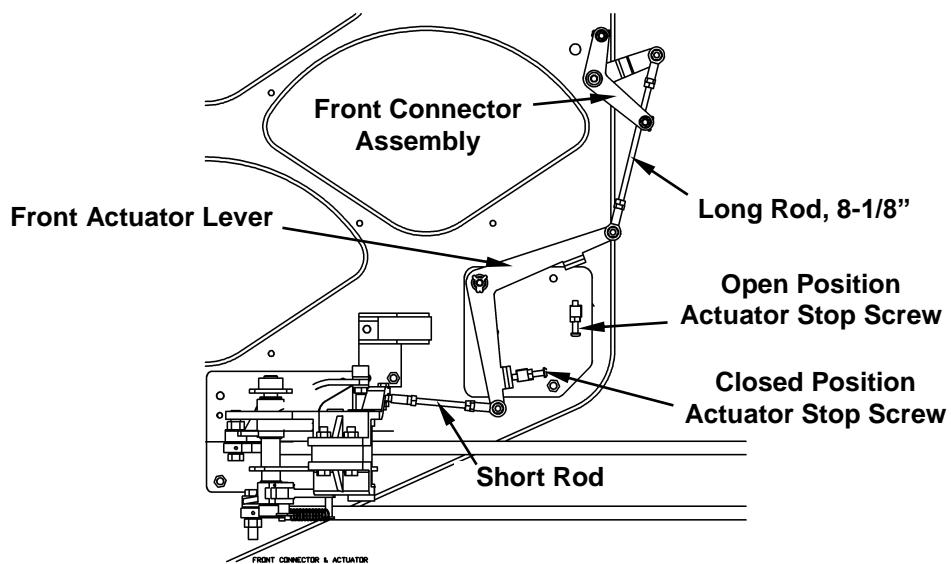
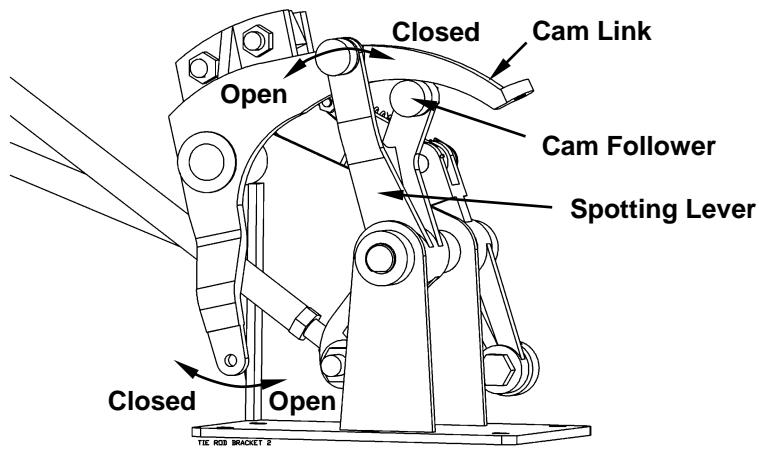

Figure 4.2-21
Figure 4.2-22
4. Loosen the two actuator stop screws (see Figure 4.2-21).
11. Loosen the jam nuts on the short rod (see Figure 4.2-21).
12. Move the spotting lever to the spotting position, which is done by placing the spotting lever in a "fingers open" position (see Figure 4.2-22).
14. With the spotting lever in the fingers open position, adjust the length of the short rod (Figure 4.2-21) so that the cam link (Figure 4.2-22) just makes contact with the cam follower. THE CAM FOLLOWER MUST STILL BE ABLE TO TURN FREELY. Tighten the jam nuts on the short rod.